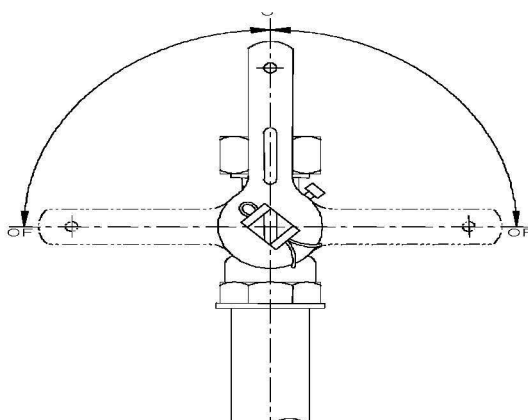

Figure C2 – Example of Emergency Control Valve
5. Any key or lever shall move in the downward direction from the 'ON' position to the 'OFF' position. (Figure C2).